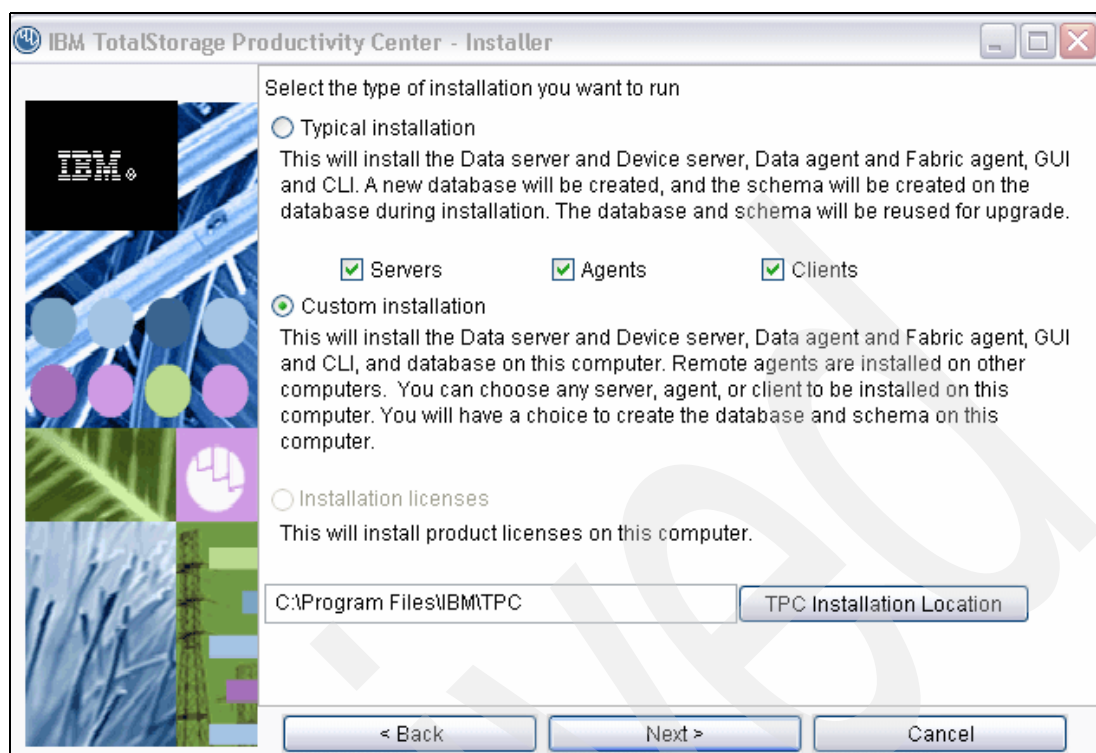

Figure 6-31 Select custom installation
4. Select custom installation (see Figure 6-31 on page 257). A typical installation installs the TPC server code with the agents and the CLI. The default location of the installation code appears in the TPC Installation Location. If you want to change the installation path, enter the preferred location. Click **Next** to continue.